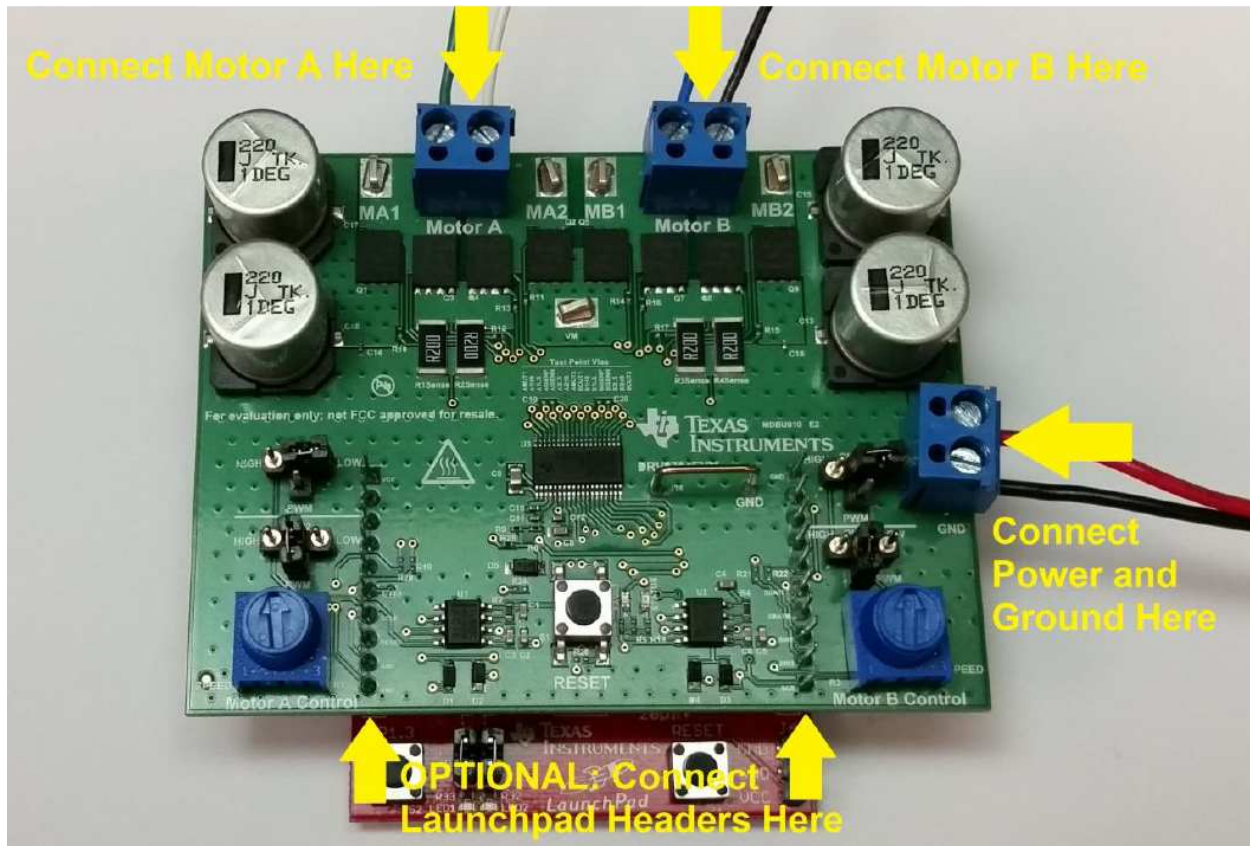

Figure 2. EVM Connections
The DRV8704EVM allows connections to VM (motor voltage) power rail via a terminal block (J9). A test clip labeled VM is available to probe the input power rail. Figure 2 shows the connections to the EVM.
Two motor connectors are provided through J10 and J11 as shown in Figure 2.
4. Now the EVM has been configured for use with an MSP430 LaunchPad and can be docked using the J12 and J13 headers as shown in Figure 2. User supplied firmware can now be used to control the DRV8704EVM.